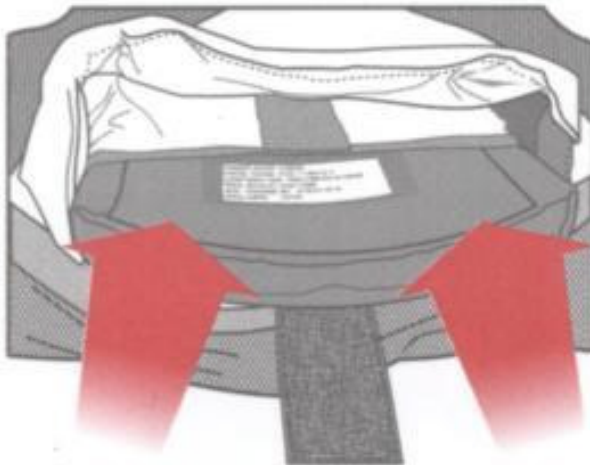

Fig. 6. Inserting the Ballistic Plate.
3. Insert the Ballistic Plate so that it curves up as shown in Fig. 6.